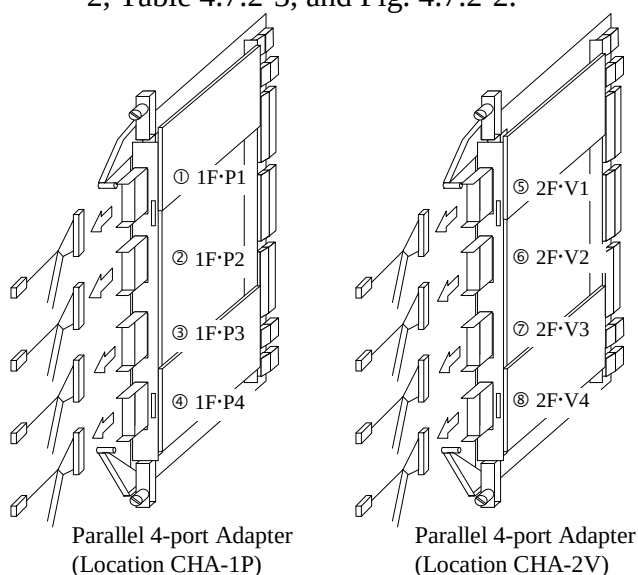

Fig. 4.7.2-2 Disconnection of CH Cables (Basic)
- a. Disconnect the CH cables from the Sub-edge connectors on the PCB referring to Table 4.7.2-2, Table 4.7.2-3, and Fig. 4.7.2-2.